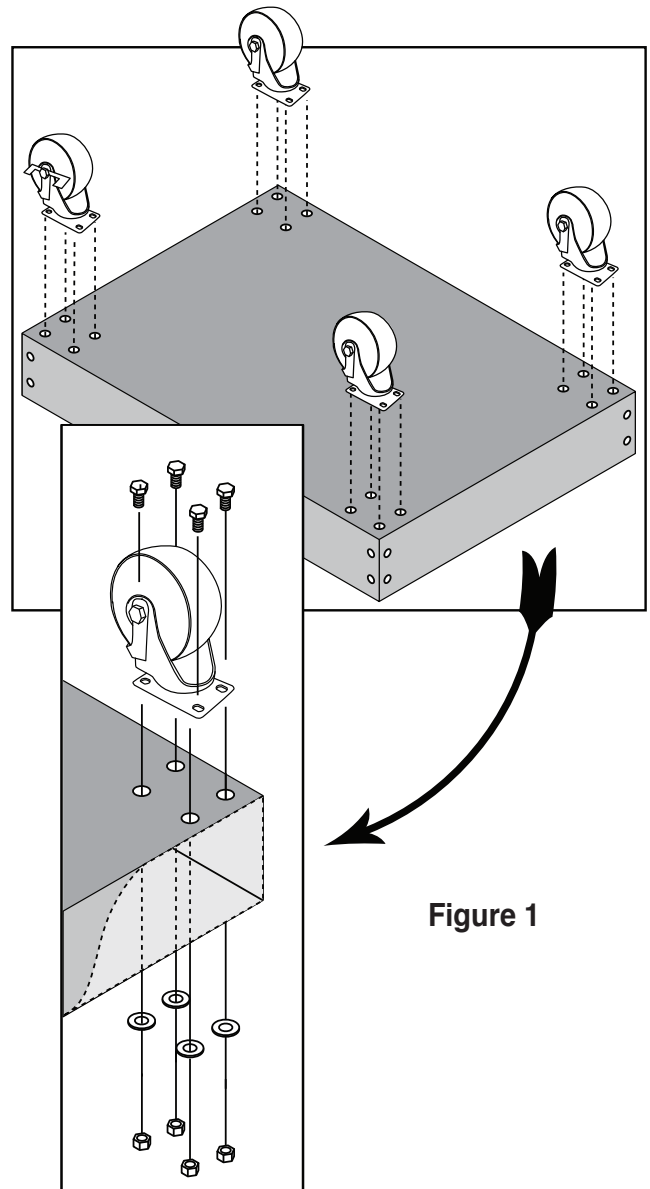

Figure 1
2. Align holes in locking and non-locking casters with matching holes in the bottom tray. See Figure 1.